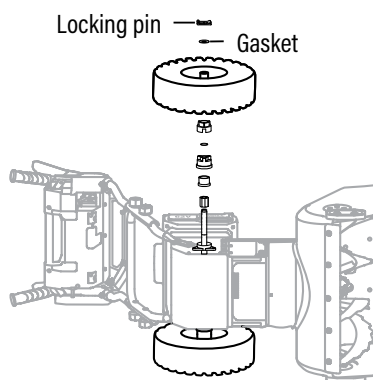

Fig. 14
1. Remove the battery packs before any maintenance. Lay the snow blower on its side, then pull out the locking pin to remove the outer gasket and the wheel. Save the inner gasket on the wheel shaft. (Fig. 14)